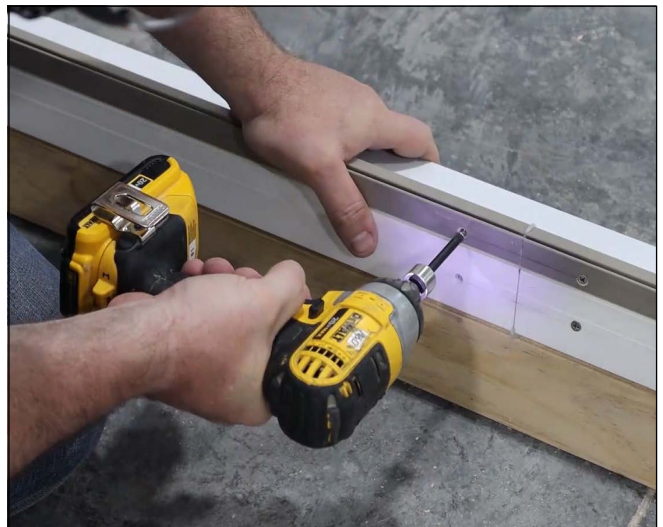

Figure 79
6. Fasten the other head jamb key screws. See Figure 79.